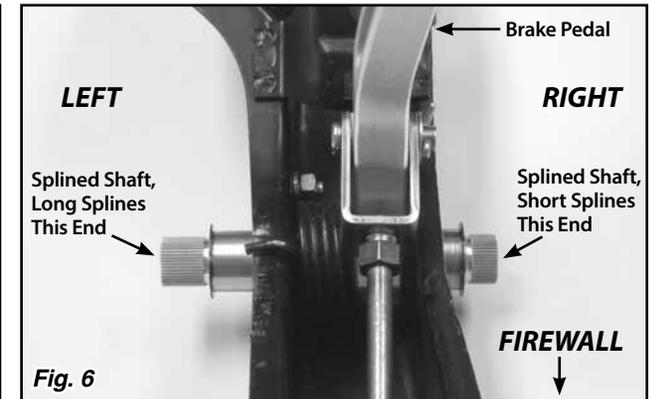

Fig. 6
**Step 3:** Insert the splined shaft into the clutch pedal axle housing, with the long splines on the left and the short splines on the right. Push it through so that the splined ends are protruding from both sides of the pedal support bracket. Fig. 6